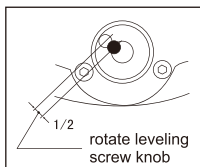

fig.8
1. Rotate the leveling screw knob 9 to ensure the air bubble moving toward to the center of circular bubble vial, the deviation should be at  $1/2$  between the center and the end position (see fig.8)